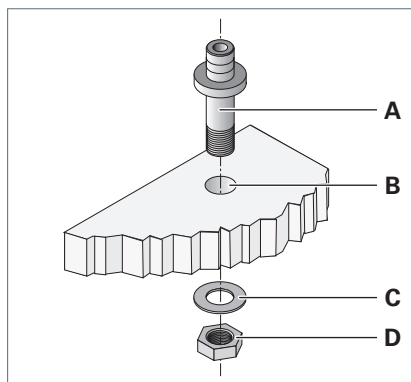

Fig. 3: Mounting the slot-in pivot pins.
- ▶ Insert the slot-in pivot pin **A** from above through the bore **B** in the mounting surface, see Fig. 3.